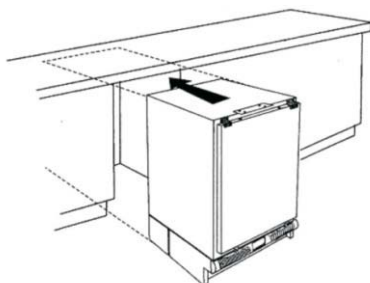
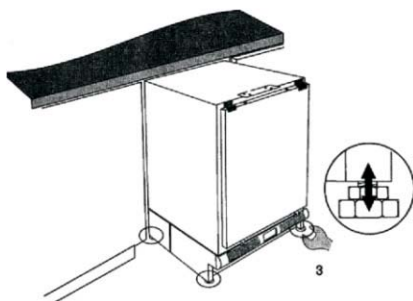

Figure 2
Figure 3
2. After inserting the appliance in the appropriate furniture(Figure 2), you must adjust its height using the 4 adjustable feet(Figure 3). The height can be adjusted from 82 to 87 mm.